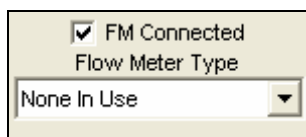

Figure 16.3.6B
4. Now check the **Flow Meter** box if a flow meter is assigned to this controller (Figure 16.3.6B).